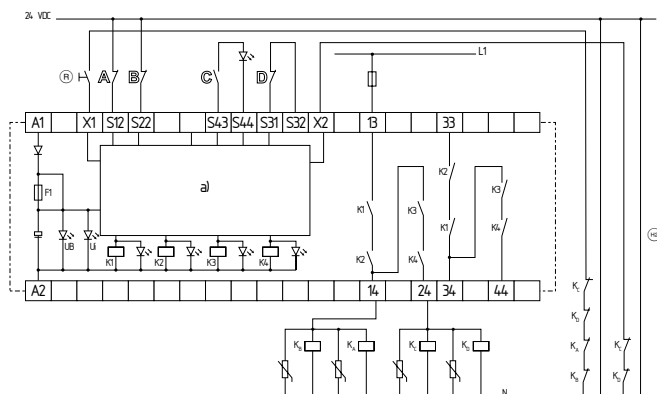

Fig. 3: SRB 400CA, 400CA/T, SRB 400CA/Q, SRB 400CA/QT
Dual-channel control, shown for an emergency stop circuit; with two contacts A and B and a guard door monitor with two contacts C and D, where at least one is a positive break contact; with external reset button (R) (related on the switch-off level 1) (see Fig. 3)